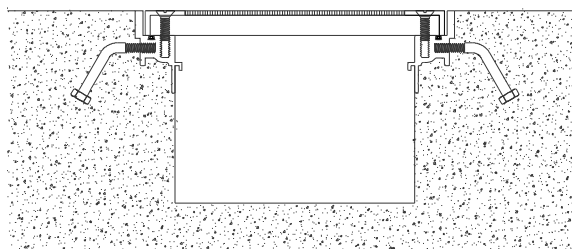

Figure 8
**STEP 14.** Install the tile into the cover plate recess at the time of installation of the finished floor (see Figure 8). Install the tile in accordance with the tile and adhesive manufacturers' instructions.